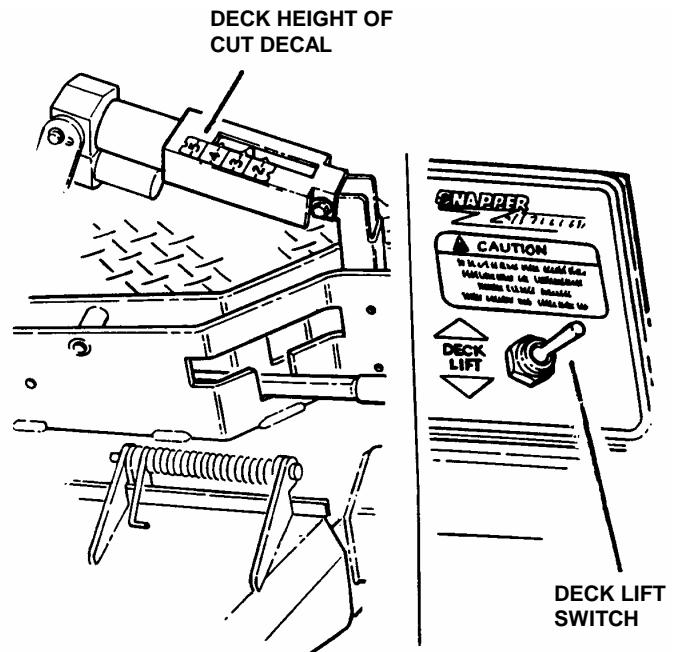

FIGURE 2.10
1. Adjust cutting height as desired to any position, using deck lift switch. When in desired height of cut, release switch. See Figure 2.10. Observe the height of cut decal located on the upper right top side of the deck to place deck at the correct height of cut. See Figure 2.10. **NOTE:** The engine does not have to be running to adjust cutting height, but key switch must be in the "ON" position.